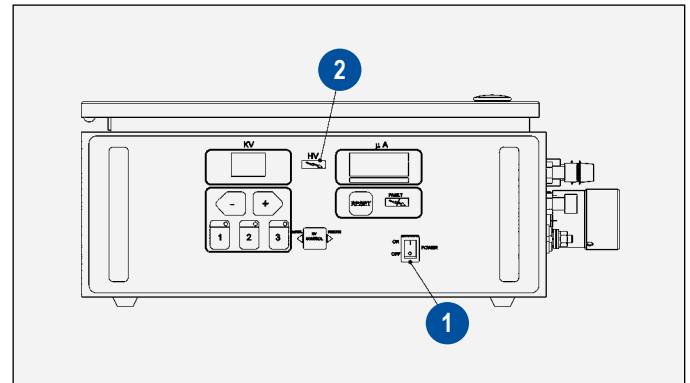

Figure 12: 9060 Power “ON-OFF” Switch
4. Turn the 9060 power “ON-OFF” switch on the front panel to the “ON” position as shown in Figure 12. The unit will power up, but high voltage will not be on at this point. because the voltage is interlocked to the electric motor through the “ON-OFF” switch on the applicator.
9060 POWER “ON-OFF” SWITCH (Figure 12)